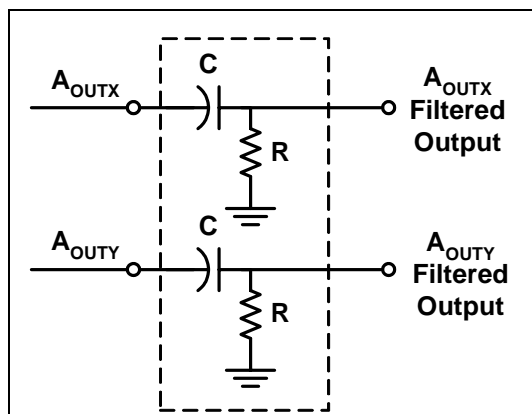

Figure 3: High Pass Filter
**AC Coupling:** For applications where only dynamic accelerations (vibration) are to be measured, it is recommended to ac couple the accelerometer output as shown in Figure 3. The advantage of ac coupling is that variations from part to part of zero *g* offset and zero *g* offset versus temperature can be eliminated. Figure 3 is a HPF (high pass filter) with a -3dB breakpoint given by the equation:  $f = \frac{1}{2\pi RC}$ . In many applications it may be